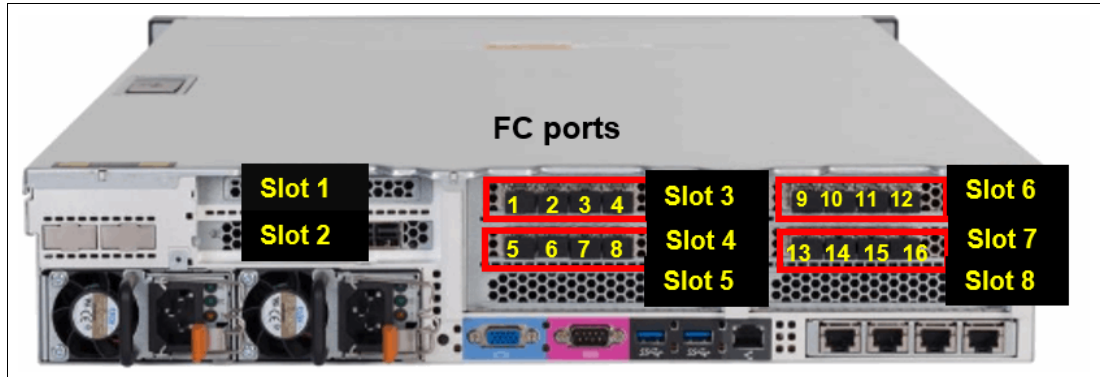

Figure 1-9 SAN Volume Controller 2145-SV1 rear port view
The SAN volume controller can have up to four quad Fibre Channel (FC) HBA cards (16 FC ports) per node. Figure 1-9 shows the port location in the rear view of the 2145-SV1 node.